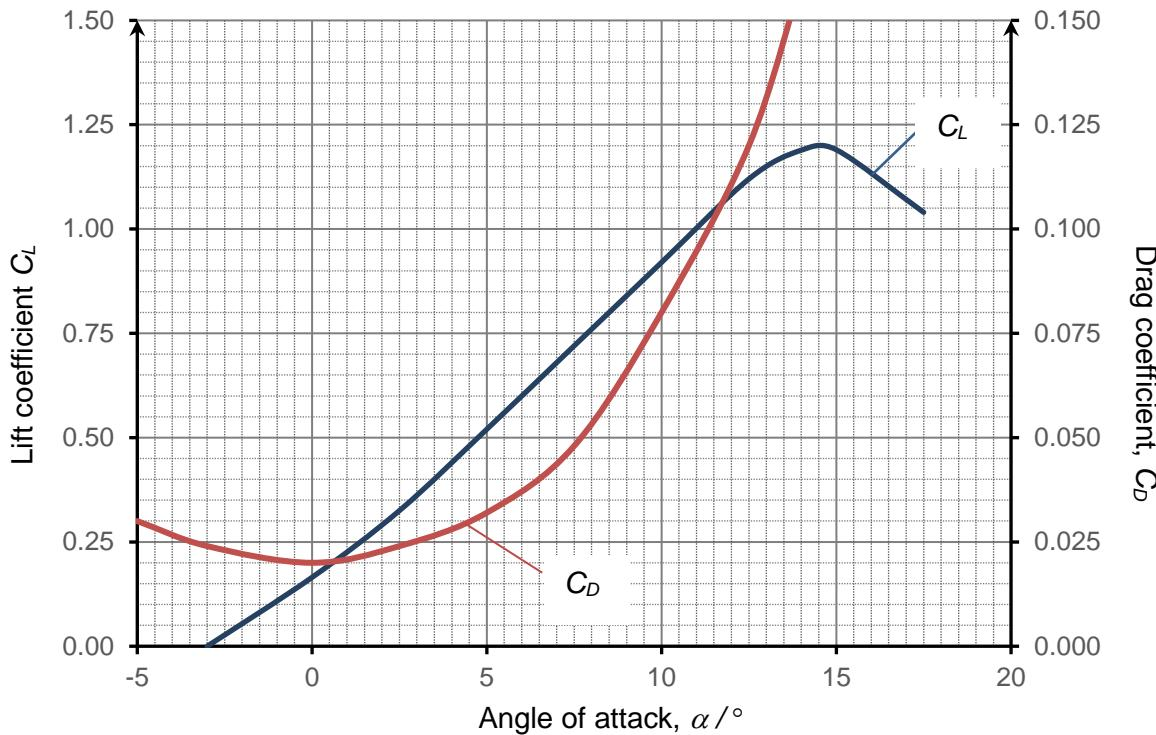
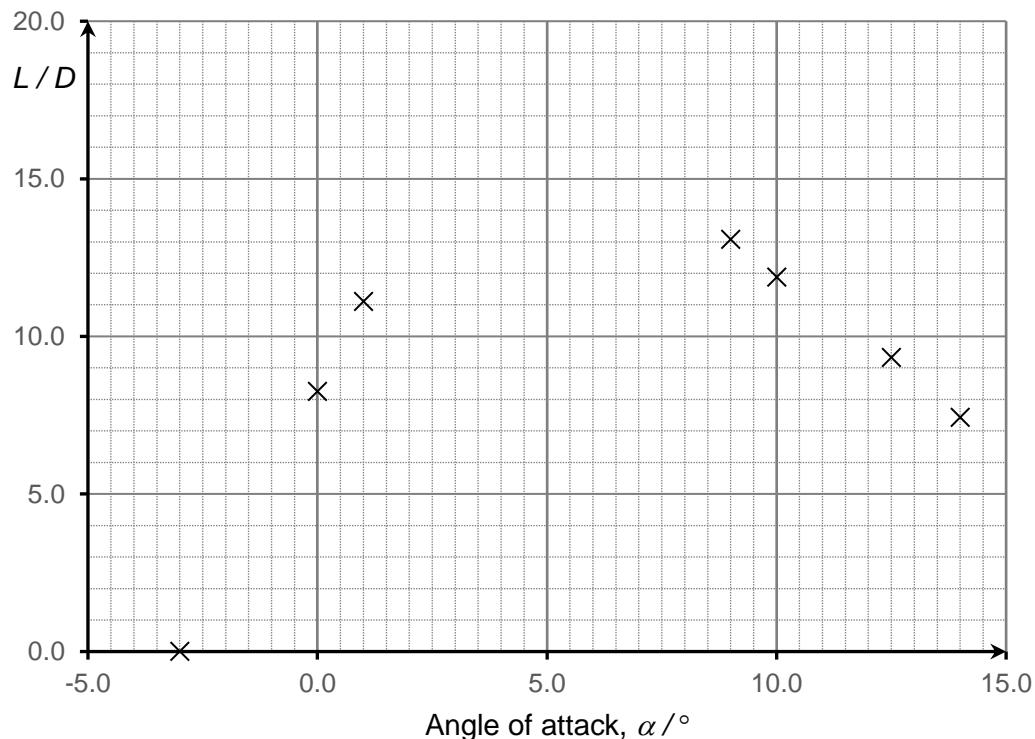

Fig. 7.6
Fig. 7.7
- (e) Both C_L and C_D are normally experimentally determined using a wind tunnel. Fig. 7.6 depicts the graphs of C_L and C_D with against the angle of attack α for a particular aerofoil wing; C_L is on the left axis and C_D is on the right axis. From these graph, the ratio of C_L to C_D can be found. This ratio is equal to the lift to drag ratio (L/D) which gives an indication of the efficiency of the performance of the plane in flight. A graph of some of the data showing the variation of L/D with α is shown in Fig. 7.7.
1. Using Fig. 7.6, determine the lift to drag ratio at this angle of attack for the aerofoil.
2. Plot this point on Fig. 7.7 and sketch the best fit curve.